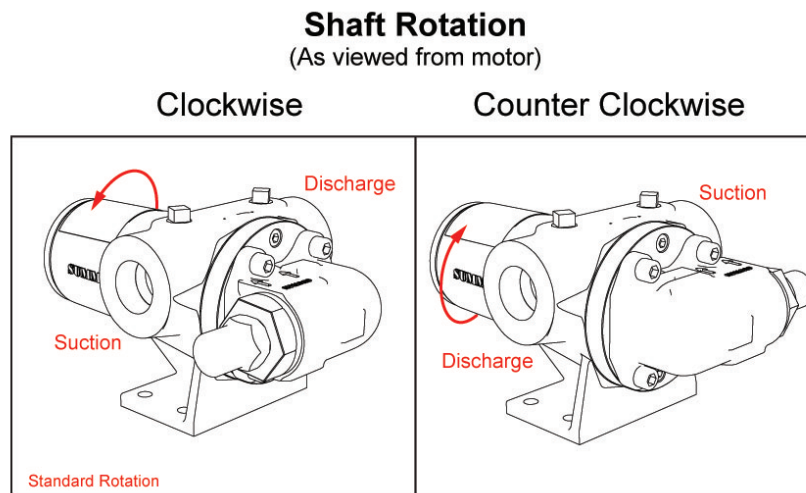

Figure 7-1: Shaft rotation and PRV orientation
The pump can operate equally well in a clockwise or counterclockwise rotation. The desired port to be the suction, determines shaft rotation. The port closest to where pumping elements (gear teeth) come out of mesh is the suction port. If fitted with a pressure relief valve, ensure the adjustment knob is nearest the suction port. See Figure 7-1 for illustration.
If changing shaft rotation, the internal pressure relief valve must change orientation as well. The adjustment knob must always point towards the suction side of the pump to ensure proper functionality. Refer to Figure 7-1 for definition of shaft rotation and pressure relief valve orientation.
4. Correct pump rotation as desired, see Figure 7-1 on page 12.
3. If an internal relief valve is installed, make sure the threaded adjustment side is closest to the suction side of the pump. See Figure 7-1 on page 12 for illustration.